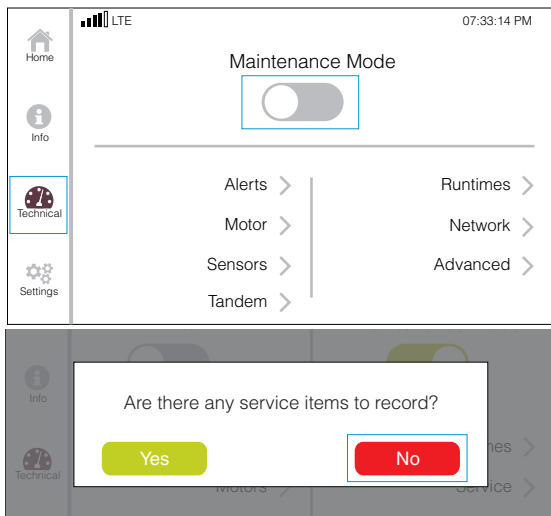

FIGURE 68. DISABLE MAINTENANCE MODE
10. On the Technical screen, press and disable **MAINTENANCE MODE**. Press **NO** on the pop-up dialogue box (FIGURE 68).